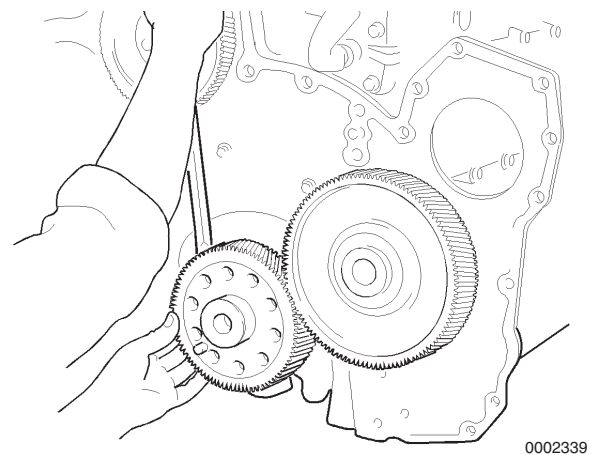

Figure 5-109
5. Remove the crankshaft gear. Use a puller or pry bar to remove the gear if necessary (**Figure 5-109**).